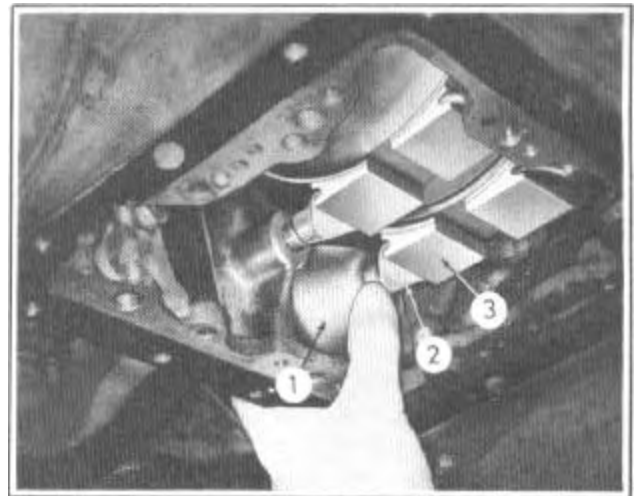

FIGURE 78
3. Remove the inner piston assembly by placing the thumb against the piston spring retainer and the fingers on top of the piston to prevent dropping the piston as it is removed, Figure 78. Push the retainer outward to disengage the strut (2) from the band shoe (3) and remove the piston assembly from the transmission case.